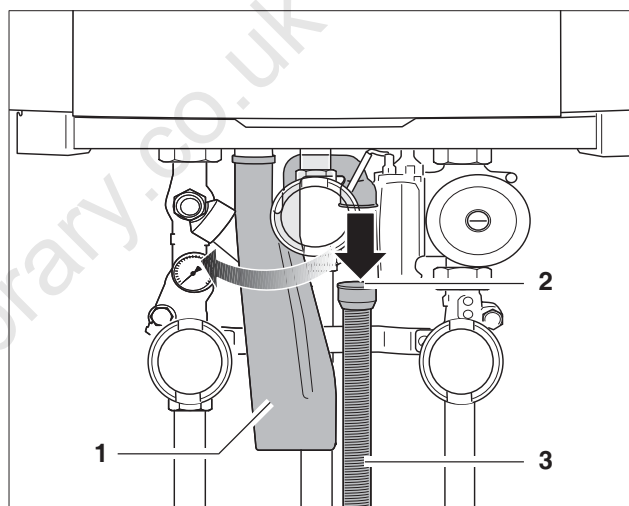

fig. 127 Disconnecting the condensate trap hose
- Disconnect the condensate trap hose (fig. 127, **item 3**) and the rubber sleeve (fig. 127, **item 2**) from the condensate trap (fig. 127, **item 1**).
- Turn the condensate trap anticlockwise through a quarter rotation (fig. 127).